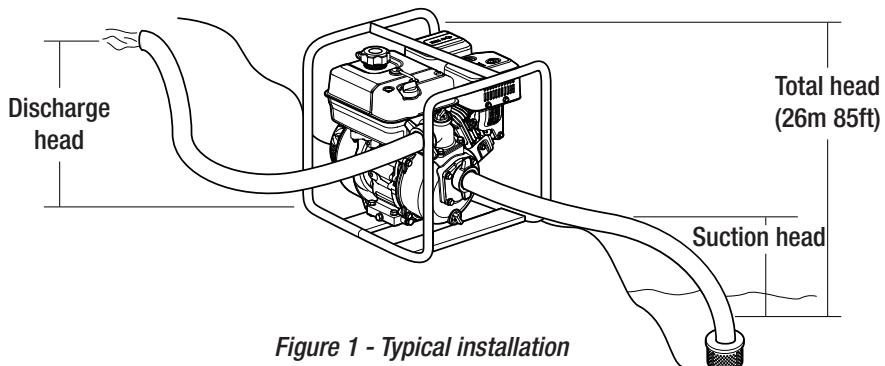

Figure 1 - Typical installation
1. Place the unit as close to the water source as possible to minimize suction lift, obtain the best pumping performance, and aid in priming. A typical portable installation is shown in Figure 1.